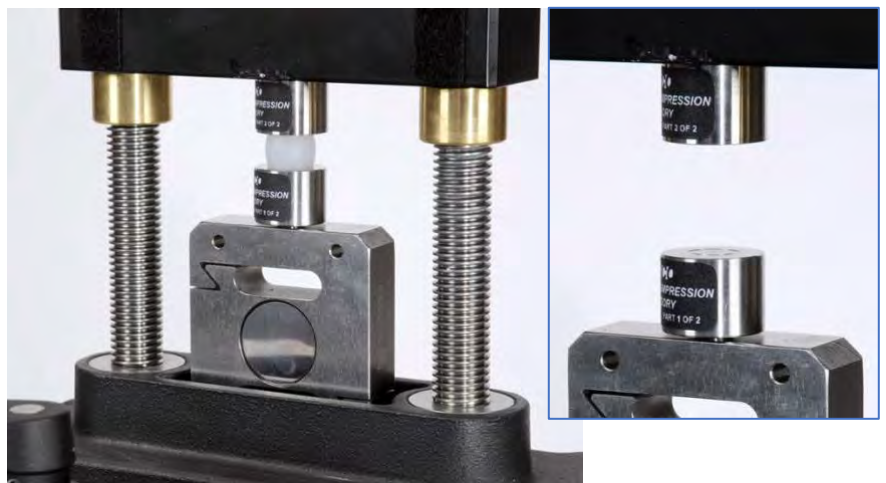

Figure 1: Compression Testing
3. Part #1 of the Compression Accessory (with the shorter screw) fastens directly into the load cell as shown in Figure 1.